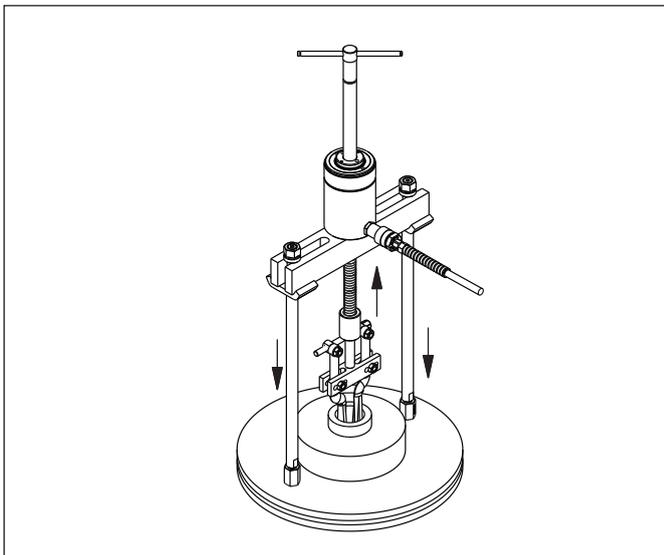

Figure 15, Cross Bearing Puller with Bearing Cup Attachment (typical)
- Install the puller on the bearing to be removed. Align puller legs and bearing cup puller jaws. See Figure 15.